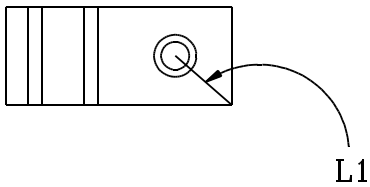

Figure 7
22. Click on ERASE, then click on L1. (See Figure 7.)